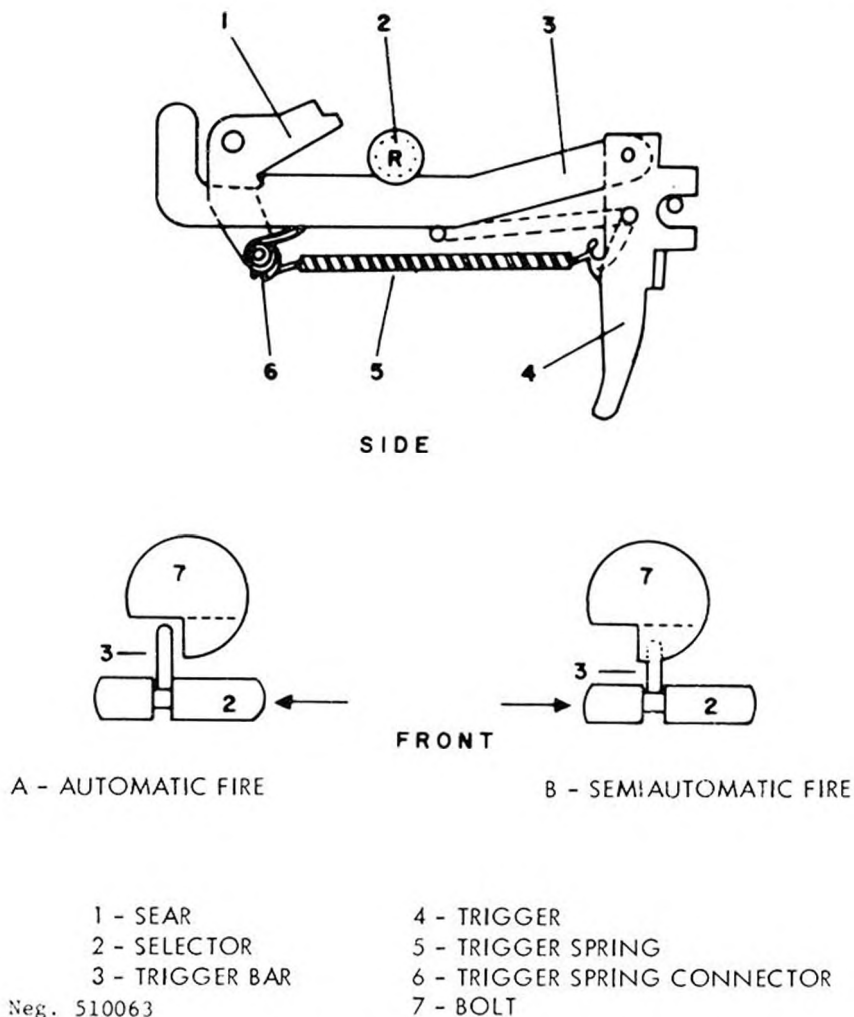

Figure 64. Sten trigger mechanism.
b. When a loaded magazine is in place and the gun is cocked and set for automatic fire (fig 64), pressure on the trigger moves the trigger bar (fig 64) forward. A notch in the trigger bar mates with the lower end of the L-shaped scar (fig 64), and as the trigger bar moves forward, it will cause the scar to rotate about its pin and release the bolt. The driving spring drives the bolt forward to strip a round from the magazine and drive it into the chamber. The fixed firing pin strikes the primer and fires the cartridge when it is fully chambered.
d. When the trigger is released, the trigger spring (fig 64) returns the trigger forward, and as the trigger bar moves to the rear, the front end of the trigger spring moves the sear to where it can intercept the bolt and stop the firing.
e. When the weapon's selector is set at semiautomatic (fig 64), the trigger bar is moved from its normal off-side location in the receiver to a central position. When the trigger is pressed, the trigger action is as described in paragraph b above; however, a cam on the bottom rear of the bolt acts on an extension of the trigger bar and forces the trigger bar out of engagement with the sear. The sear then returns to its normal position and intercepts the bolt so that only one shot is fired. The trigger must be released to allow the trigger bar to move rearward and reengage the sear prior to firing another shot.